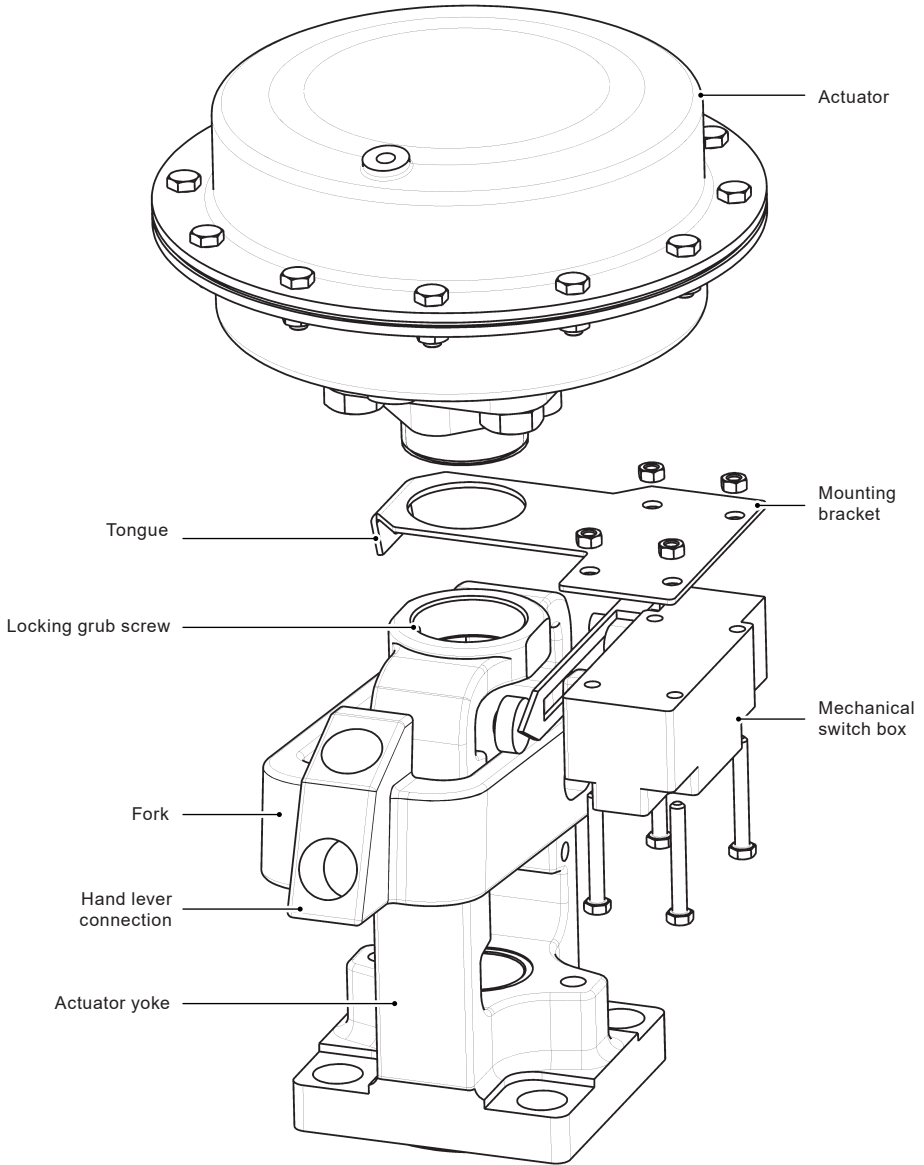

Fig. 3 Mechanical switch mounting
Refer to Figure 3 for product assembly and proceed as follows:
- The mechanical switch should be located in such a position as to allow the correct sliding of the roller on the upper surface of the fork arm. This action takes place on the opposite side of the yoke to the grub screw, towards the hand lever connection, as shown in Figure 3.